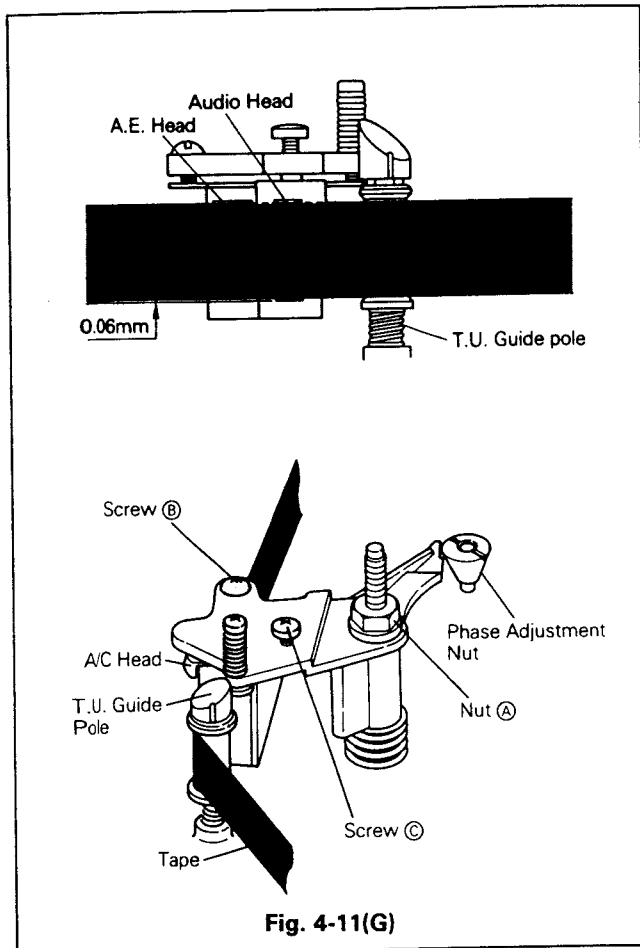

Fig. 4-11(G)
- C. Adjust the inclination adjusting screw (C) so that the tape will run along the lower edge of the take-up guide pole without creasing as illustrated in Fig. 4-11(G).